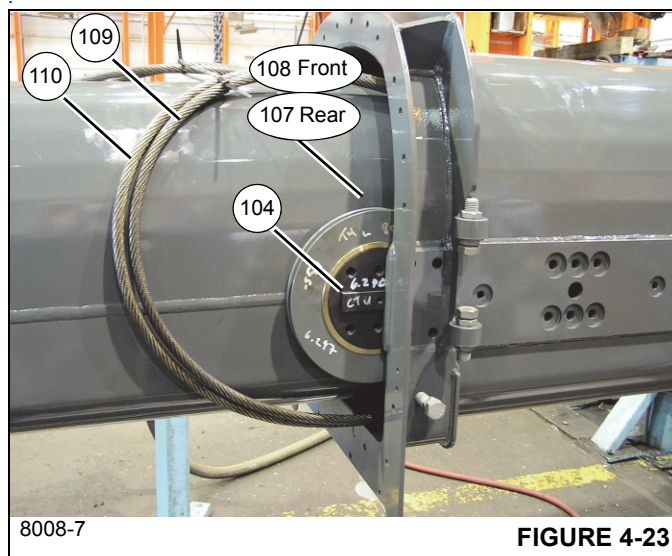

FIGURE 4-23
76. Pull the tele 4 forward extend cables (110) away from the front sheaves (108).
77. Remove the six capscrews (105) and shaft (104) securing the front sheave (108) to the inside of tele 3 (4) (left and right sides) (see Figure 4-23).
79. Pull the tele 4 forward extend cables (109) away from the rear sheaves (107) (see Figure 4-23).
80. Remove the six capscrews (105) and shaft (104) securing the rear sheave (107) to the inside of tele 3 (4) (left and right sides) (see Figure 4-23).
81. Remove tele 4 (5) from tele 3 (4); set tele 4 (5) on adequate supports.